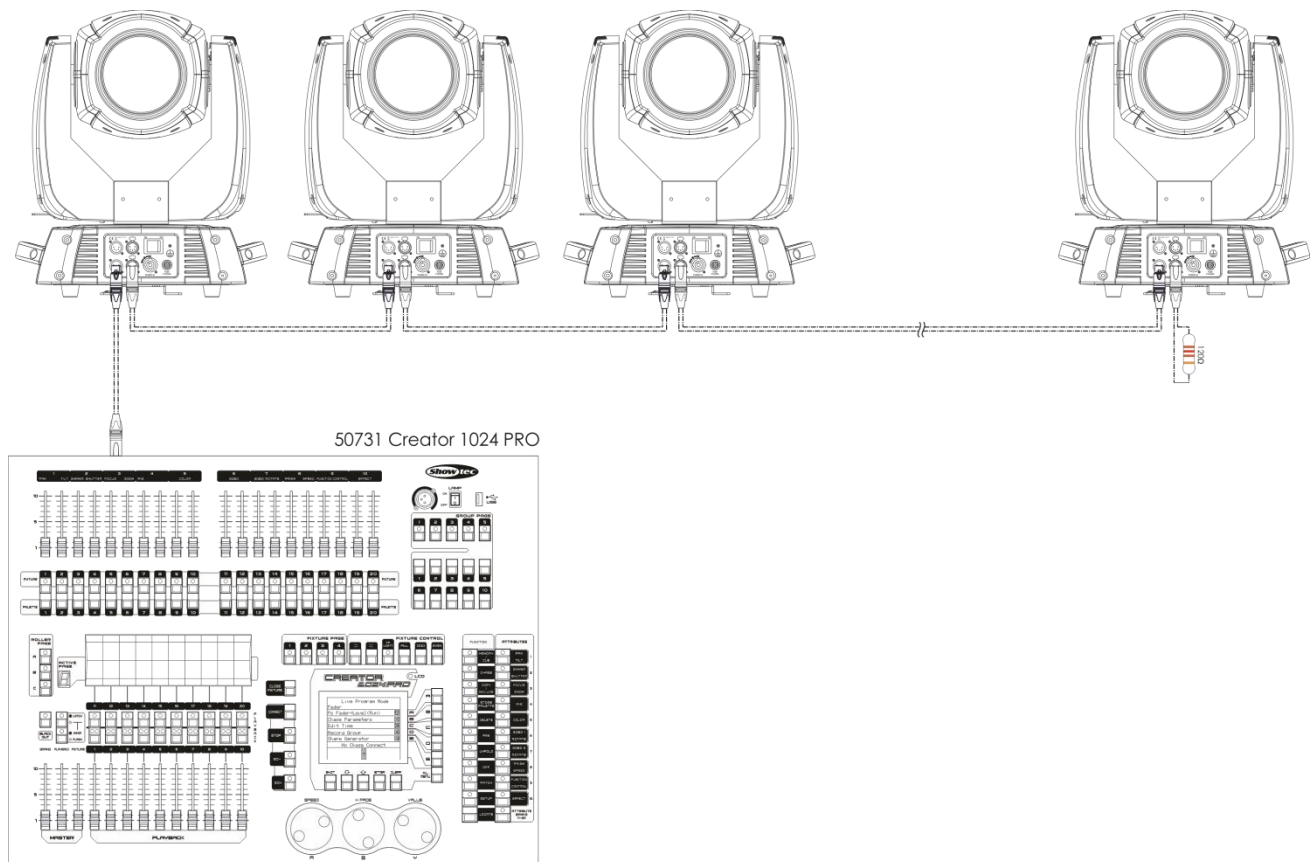

Fig. 03
- 05) Link the units as shown in (figure 03), Connect a DMX signal cable from the first unit's DMX "out" socket to the second unit's "in" socket. Repeat this process to link the second, third, and fourth units.